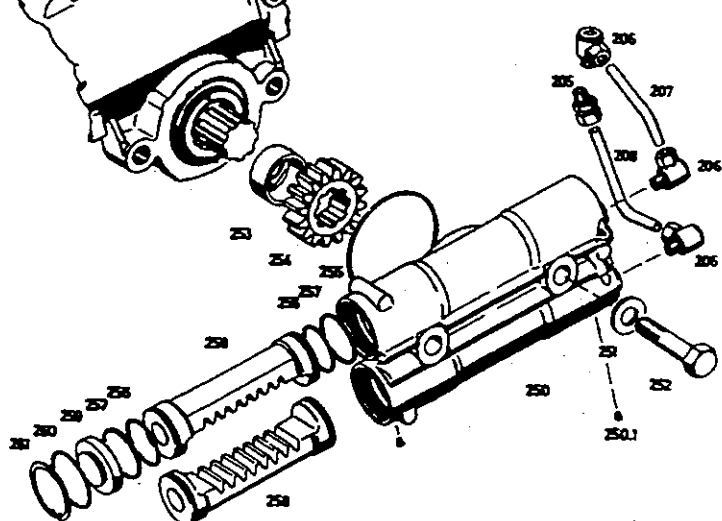

Fig.8
Remove piping (225 and 226) and pipe unions (205 and 206) in the case of versions with add-on cylinder (250) see Fig.8.
Unscrew hexagon screws (252) with washers (251) and remove add-on cylinder (250) (Fig.8).